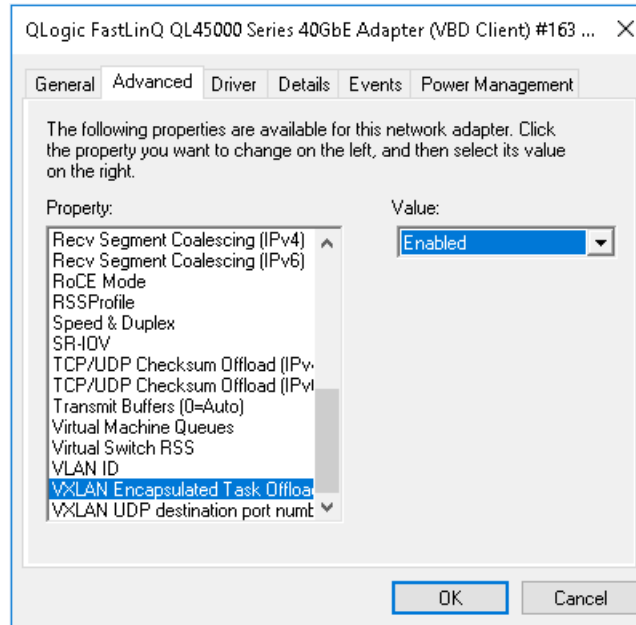

Figure 9-16. Advanced Properties: Enabling VXLAN
2. On the Advanced Properties page (Figure 9-16) under **Property**, select **VXLAN Encapsulated Task Offload**.